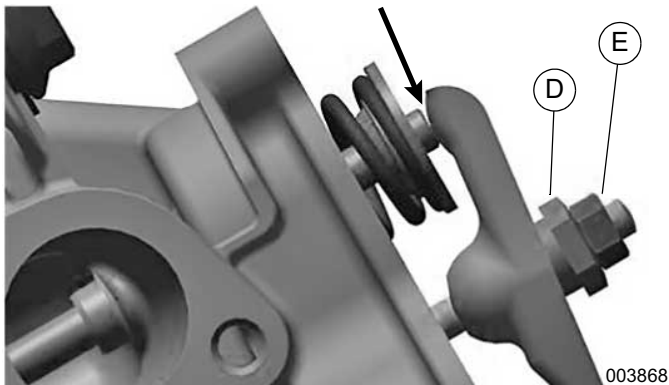

Figure 14-46. Adjust Intake Valve Clearance
4. See Figure 14-46. Insert a 0.003 in (0.076 mm) shim between rocker arm and intake valve stem.